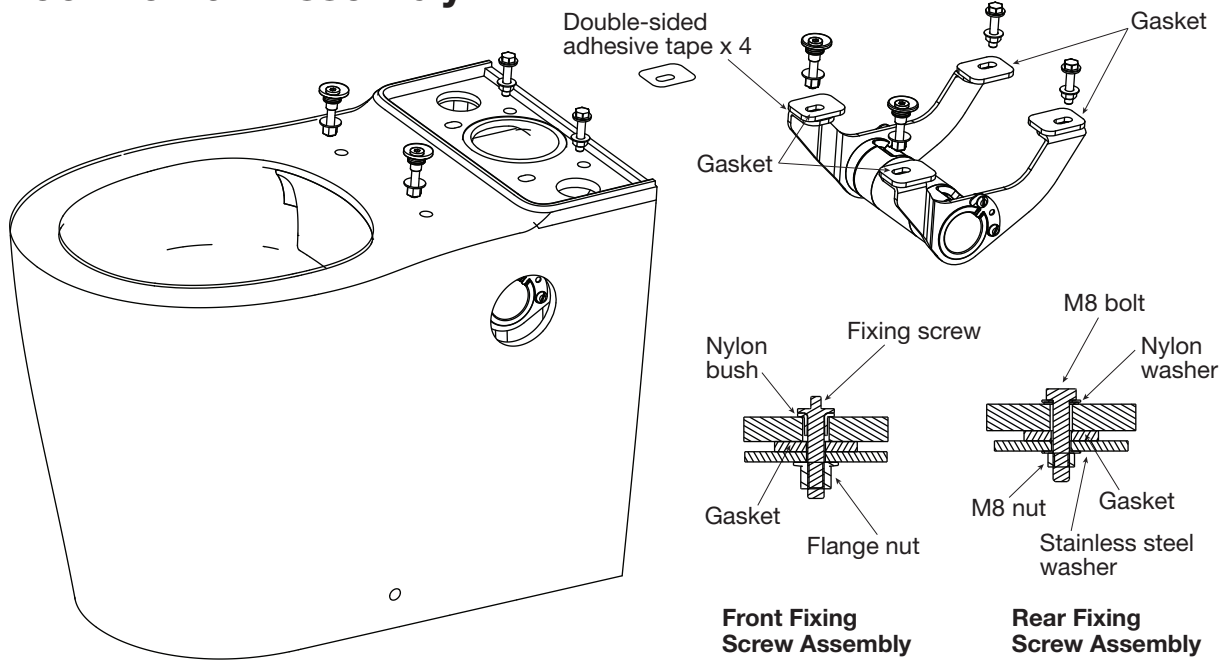

Fig. 3
3. Attach the four gaskets to the adhesive tape and loosely assemble both the front and back fixing assemblies as shown above in **Fig. 3**. Note the position of the nylon washer which contacts the pan.